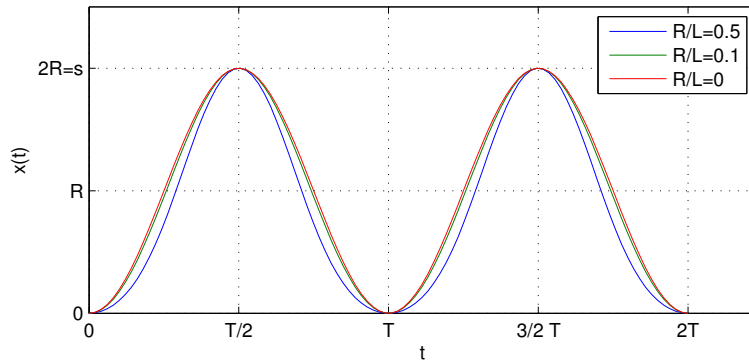

Figure 20: Displacement of the crank mechanism.
where $\varphi = \omega t$. Now we analyze the magnitude of the function $F(\lambda)$. Note that if $\varphi = 0$, we have $F = 0$ and if $\varphi = 90^\circ$, $F(\lambda) = (1 - \sqrt{1 - \lambda^2})/\lambda$. It is worth noting that, as shown in Table 5, if $\lambda \leq 0.2$, the error by neglecting this term is less than 10% and if $\lambda \leq 0.1$, the error is less than 5%. The displacement $x(t)$ as a function of time is shown in Figure 20. Note that the lines corresponding to $\lambda = 0.1$ and $\lambda = 0$ coincide within line width. Finally, after accepting the approx. 10% error (80) simplifies to